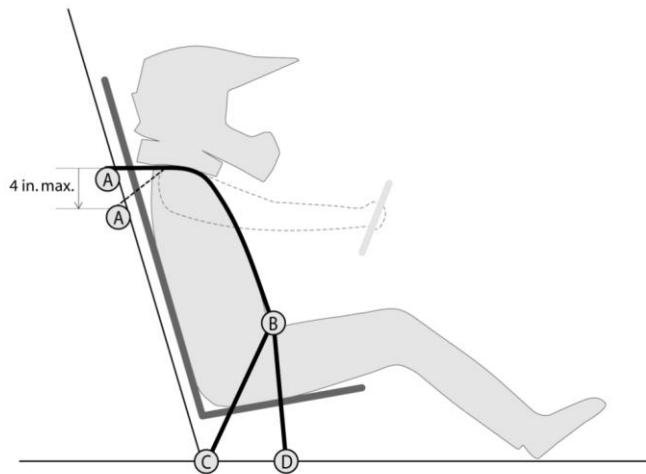

Figure B-32: Driver Harness, Shoulder Harness Vertical Position
The shoulder belt mounting point (A) (see Figure B-32) shall be positioned no higher than shoulder level of driver, and no lower than 102 mm (4.0 in.) vertically below each driver’s shoulders.